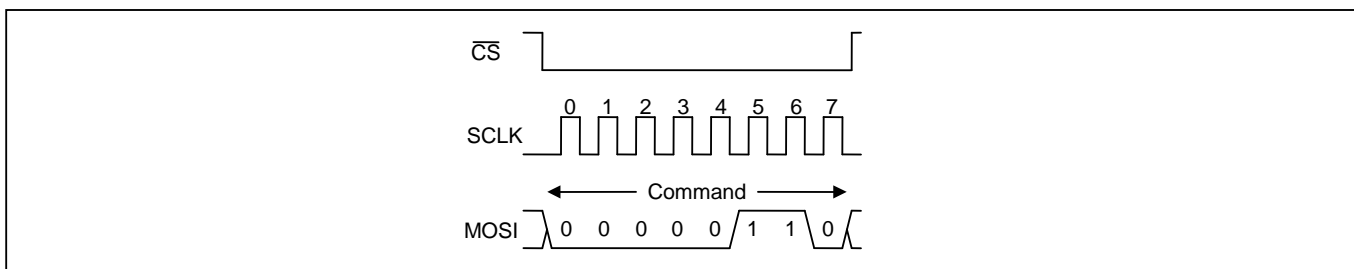
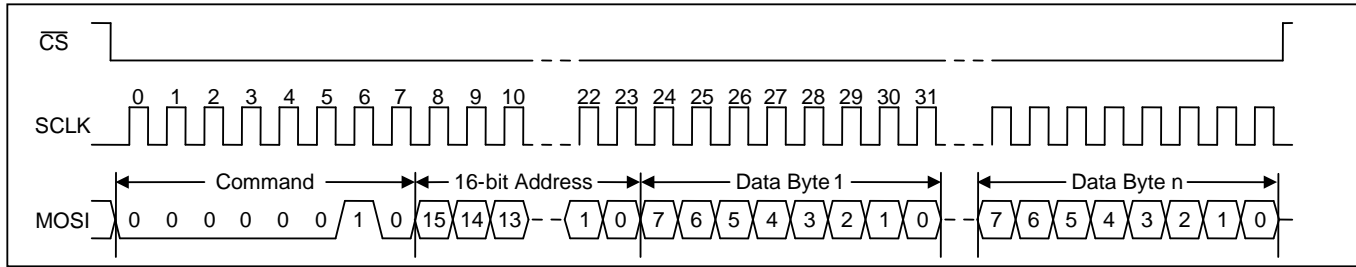

Figure 12 - SPI Write Enable Transaction Functional Timing
Figure 13 - SPI Write Transaction Functional Timing
**Register Write Transactions.** The device registers are accessible when **EESEL**=0. After driving CSN low, the bus master transmits the write command followed by the 16-bit register address followed by the first data byte to be written. The device receives the first data byte on MOSI, writes it to the specified register, increments its internal address register, and prepares to receive the next data byte. If the master continues to transmit, the device continues to write the data received and increment its address counter. The write transaction is completed when the bus master drives CSN high. See Figure 13.
drives CSN high, the device transfers the data in the page buffer to the appropriate page in the EEPROM memory. See Figure 12 and Figure 13.